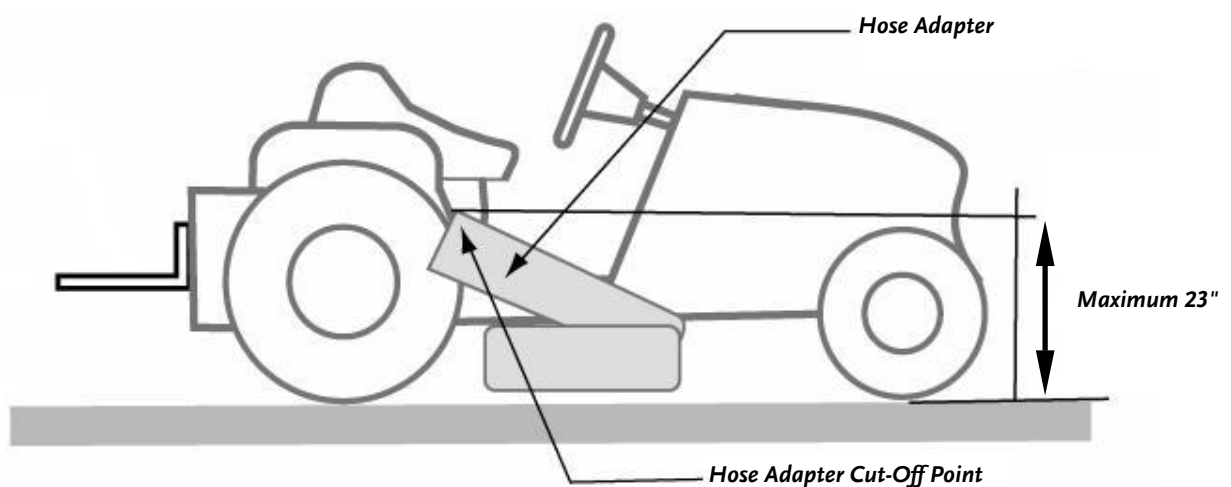

Figure 20
2. Mark the distance of approximately 23" from the ground to the top surface of your Lawn Deck Adapter Exit Tube (**Figure 20**).
3. Remove the Lawn Deck Adapter from your Lawn Tractor and using a saw, cut the Exit Tube of the Lawn Deck Adapter at 90° (**Figure 20**).